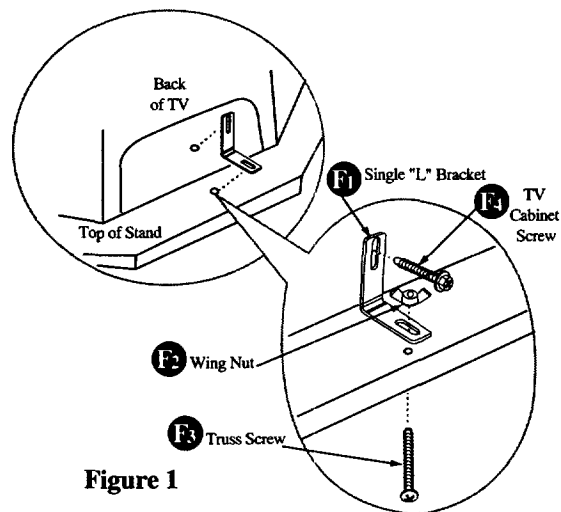

Figure 1
1. Attach the "L" bracket as shown in Figure 1.